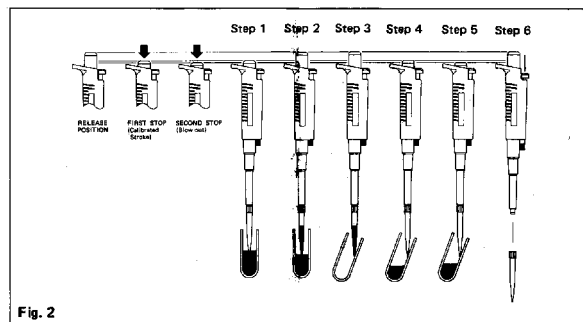

Fig. 2
2. Place a disposable tip firmly onto the end of the pipette. Depress the thumb knob to the first stop. Dip the tip into the liquid to a depth of 3mm. (Step 1, Fig. 2)